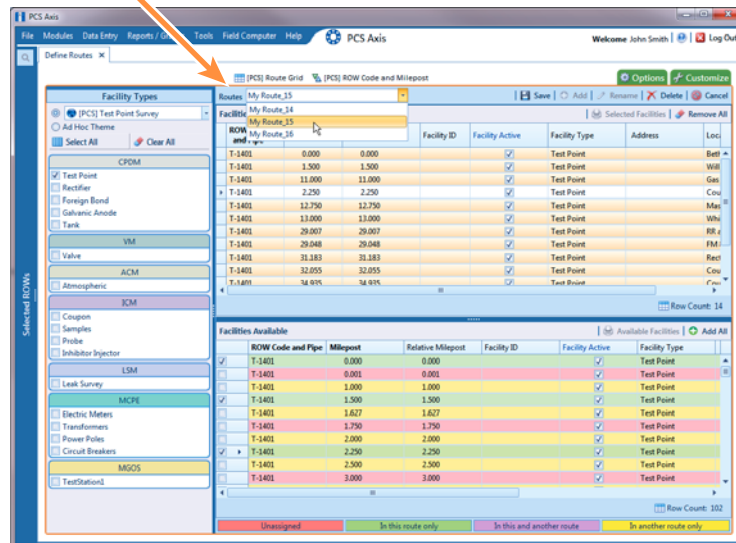

Figure 8-1. Define Routes
- 3 Click the down arrow in **Routes** and select a route in the selection list (Figure 8-1).
- b** Click **Data Entry > Define Routes**, then click the down arrow in **Routes** and select a route (Figure 8-1, page 350).